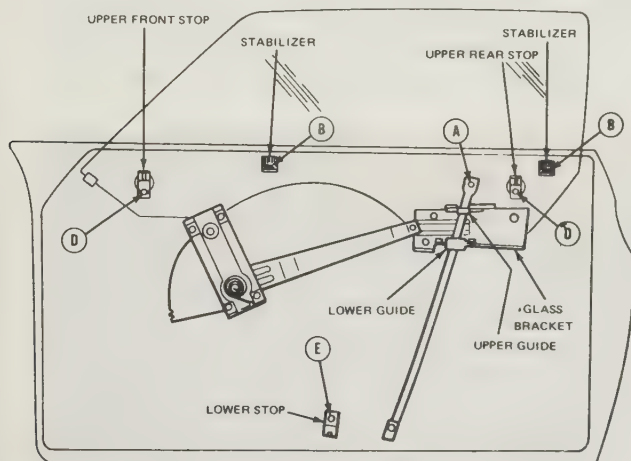

Fig. 12.8. Front door window glass adjustment points (Secs. 18 and 20)
- 2 Remove the screws from the front and rear glass stabilizers and remove the stabilizers (see Fig. 12.8).
- 7 To adjust the glass lean-in or lean-out, slacken the lower guide attaching screws (see Fig. 12.8).